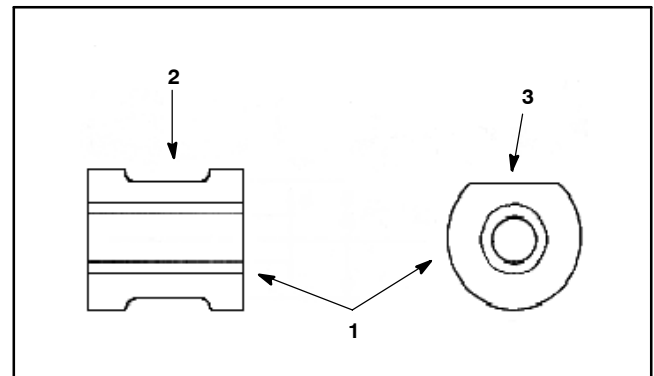

Figure 15
3. Check the rollers. If binding or uneven wear is found, replace all rollers as a set (Fig. 15).